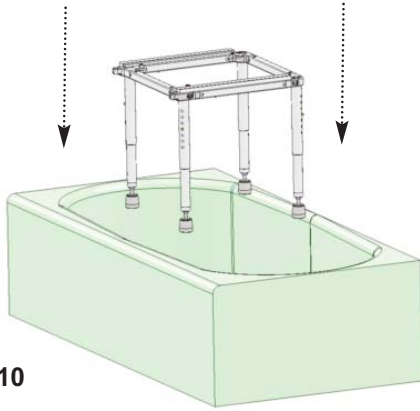

Figure 10
**B** Place the assembled tub section of the slider into the desired position of the bath tub (Refer to Figure 10).